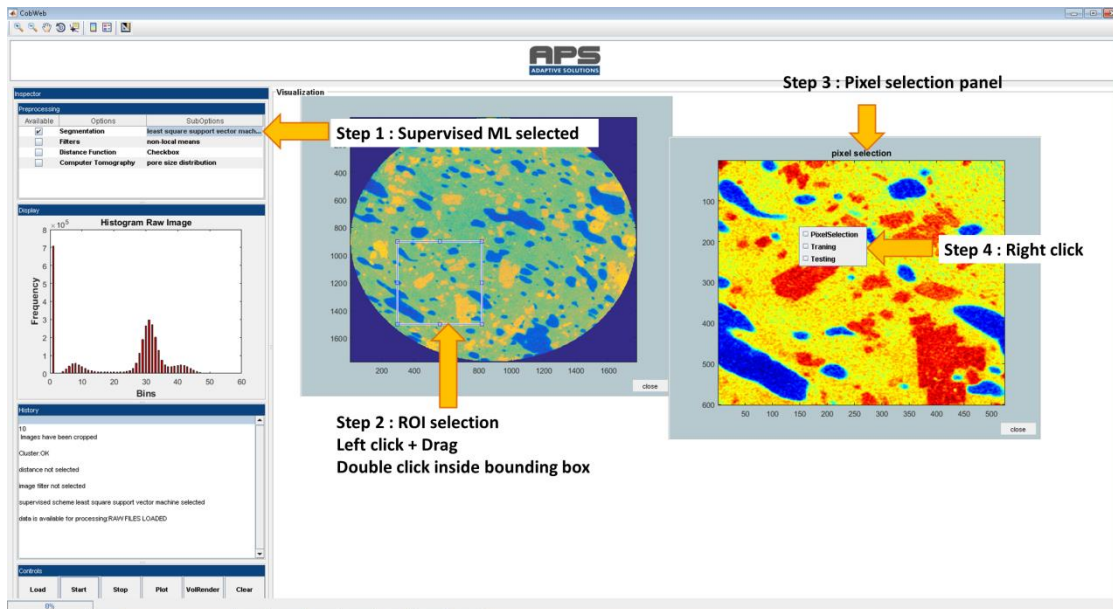

Figure 27: Image segmentation with supervised ML techniques
- Step 1 (Figure 27): Select one of the **supervised algorithms**.
- Step 2 (Figure 27): The action in Step 1 shows the ROI selection. For further details about image preprocessing and REV selection, please see section 6.3 to 6.3.1
- Step 3 (Figure 27): Once the ROI is selected, the ROI is displayed in a separate window panel: “Pixel selection”.
- Step 4 (Figure 27): **Right click** on the **ROI image** and select the first option **Pixel Selection**, this will pop up a pixel table panel.